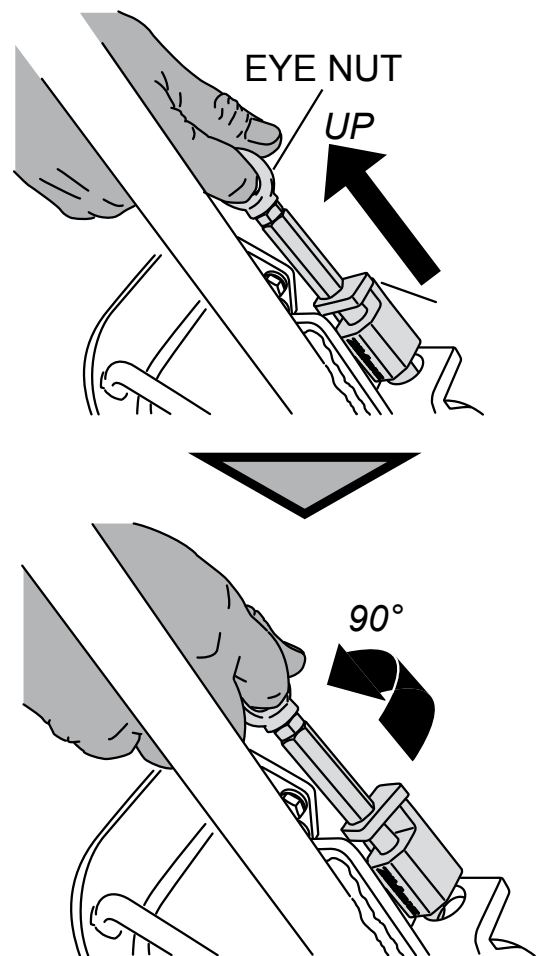

Figure 17. Releasing Handle
5. Pull out the eye nut and turn 90° to the left to release the handle (Figure 17).